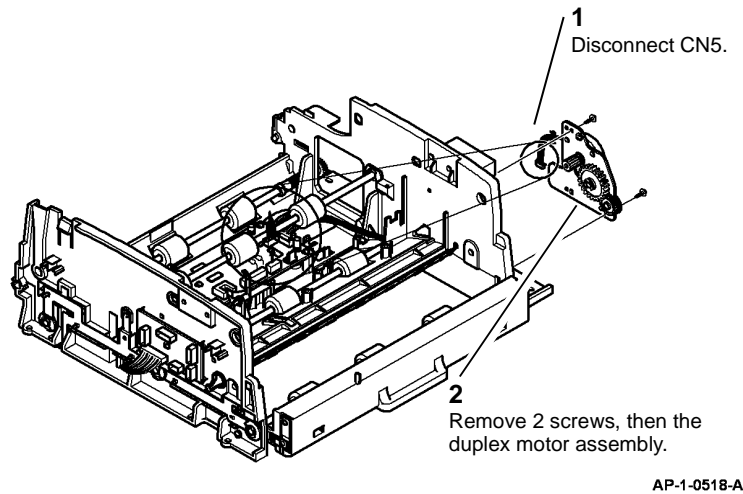

Figure 20 Duplex motor assembly removal
21. Remove the duplex motor assembly, Figure 20.